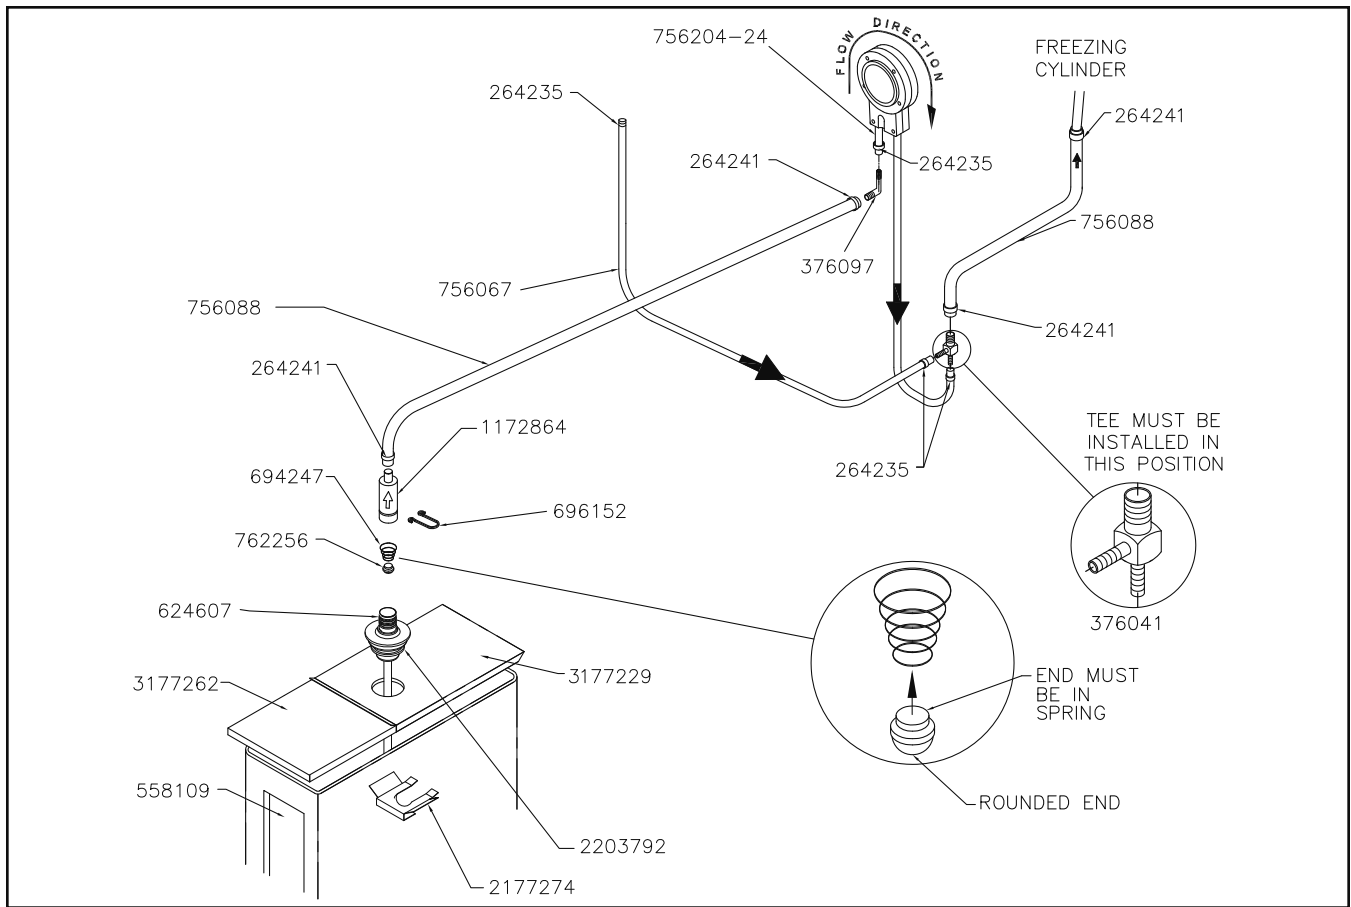

Figure 2-3 Mix Pump Connections for Standard Mix Container
3. Connect the elbow fitting to the free end of the tubing. Connect the opposite end of the elbow to 1/4" ID tan tubing on the left side of the pump head. Secure with hose clamps (Fig. 2-3).
10. Connect the free end of the mix pump hose to the 3-way Tee (Fig. 2-3). When all connections are complete, the 3-way Tee must be lower than the black pump housing.